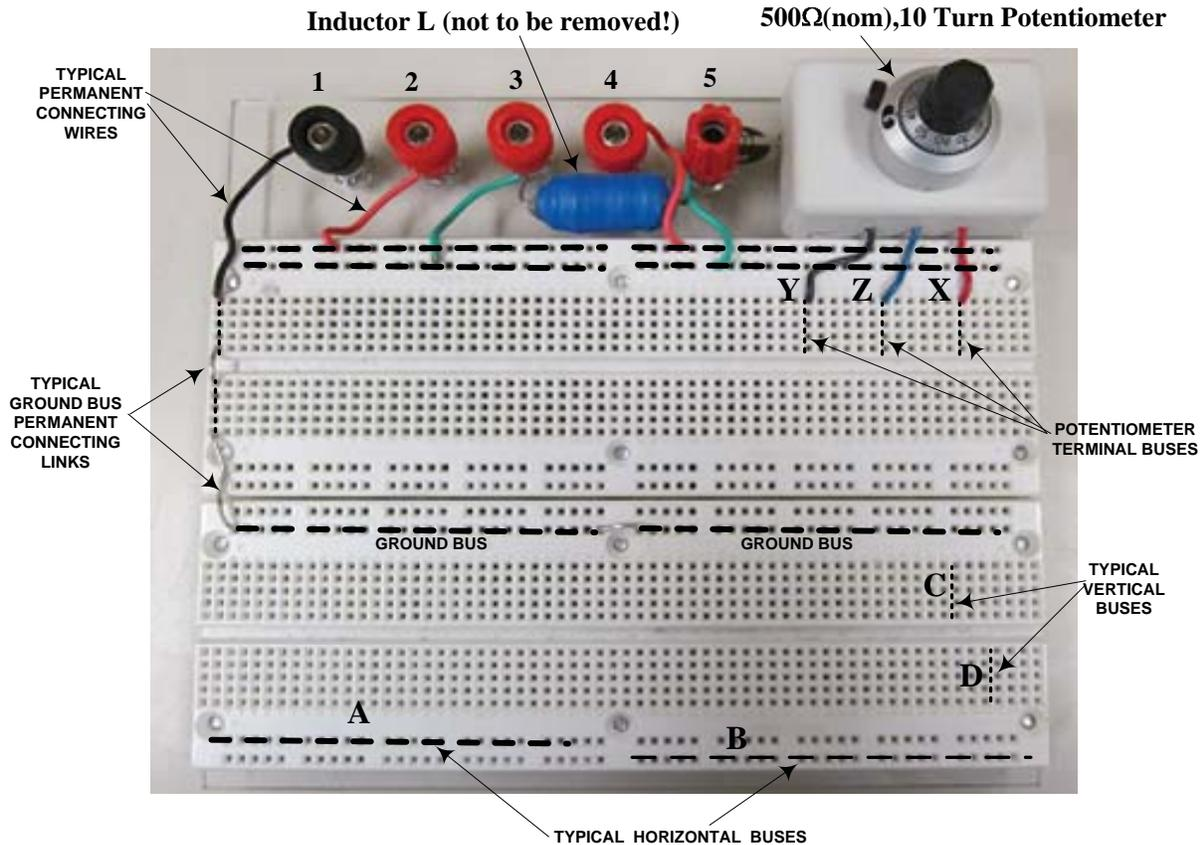

Figure 2.3 : The modified “Protoboard PB-60” breadboard system
The circuit theorems introduced above will be experimentally verified with reference to a five resistor network which will be built by the student on a breadboard. A modified Protoboard PB-60 breadboard system is available at each station along with sets of connecting (hook-up) wires and components. A photograph of the breadboard used is shown in Figure 2.3.
These buss structures can be also seen by looking at the underside of the breadboard. The terminals #2 to #4 are already connected, using the permanent connecting wires, to the group of four horizontal busses as shown in Figure 2.3. Terminal #1 is the designated Ground terminal is connected, using the black wire and the permanent links, to the Ground Bus as shown in the figure. On-board circuit connections are made to the above busses using components and wires stocked in a plastic box provided at each station. Proper insertion of a hook-up wire or of a component into the breadboard requires that the wire-end be physically **straight** to approximately an eighth of an inch (~ 3 mm).
The onboard potentiometer is a $500\Omega \pm 5\%$ (max), 10-turn wire-wound type with a positional linearity of 0.25%. It is attached to a turns-counting dial which can be set from 0.0 to 10.0. The **end terminals** of the pot are connected to the 6th(Red wire,**X**) and 18th (Black wire,**Y**) vertical busses starting from the right, top side of the breadboard [see Figure 2.3]. The Blue or Green wire (**Z**) is connected to the wiper-terminal of the pot **through a 100 Ω resistor.** The total resistance of $\approx 500\Omega$ appears between **X** and **Y** and the resistance between **Z** and **Y** increases from 100 Ω to 600 Ω as the dial is turned clockwise(CW) from zero to 10. Although R_{ZY} can be obtained approximately from the dial reading, the **exact** value should always be obtained by ohm-meter measurement.[This is only because R_{XY} may not be exactly 500 Ω . On the other hand, if R_{XY} is initially measured, then R_{ZY} can be obtained from the dial reading. For example, if $R_{XY} = 489.9\Omega$ and the dial is set at 5, then R_{ZY} will be $\approx (0.5)(489.9)+100$ or $\approx 345\Omega$].When connected as a potentiometer, **Y** should be used as the grounded terminal.